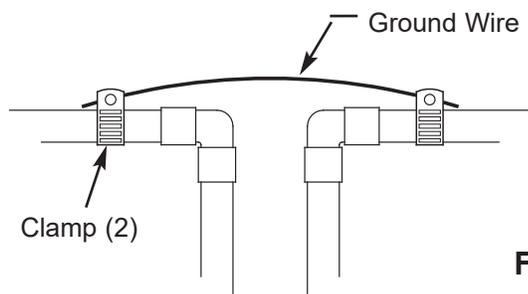

FIG. 9
- a. Install a #4 copper wire across the removed section of main water pipe, securely clamping it at both ends (See Figure 9) - parts not included.